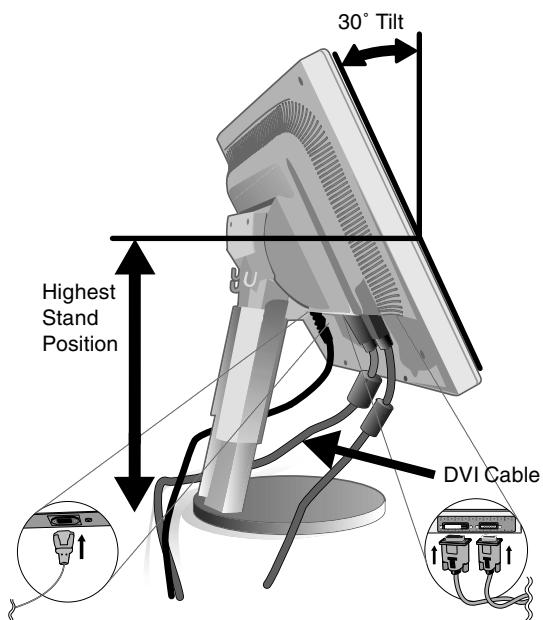

Figure C.1
3. Place hands on each side of the monitor to tilt the LCD panel 30-degree angle and lift up to the highest position (**Figure C.1**).
4. Connect all cables to the appropriate connectors (**Figure C.1**).
**NOTE:** If connecting both DVI and D-sub cable, the DVI cable must be connected along side the rib on the power cord side (**Figure C.1**).